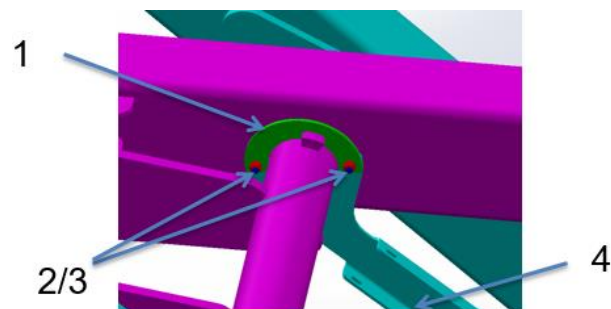

Fig. 4.99 Fifth fork (wiring plate) assembly
- a) Connect and fix the part 4 and part 1 with part 2 and 3 on the central shaft of the fifth fork, as shown in Fig. 4.99, tighten with a ratchet wrench and mark with a Mark pen;